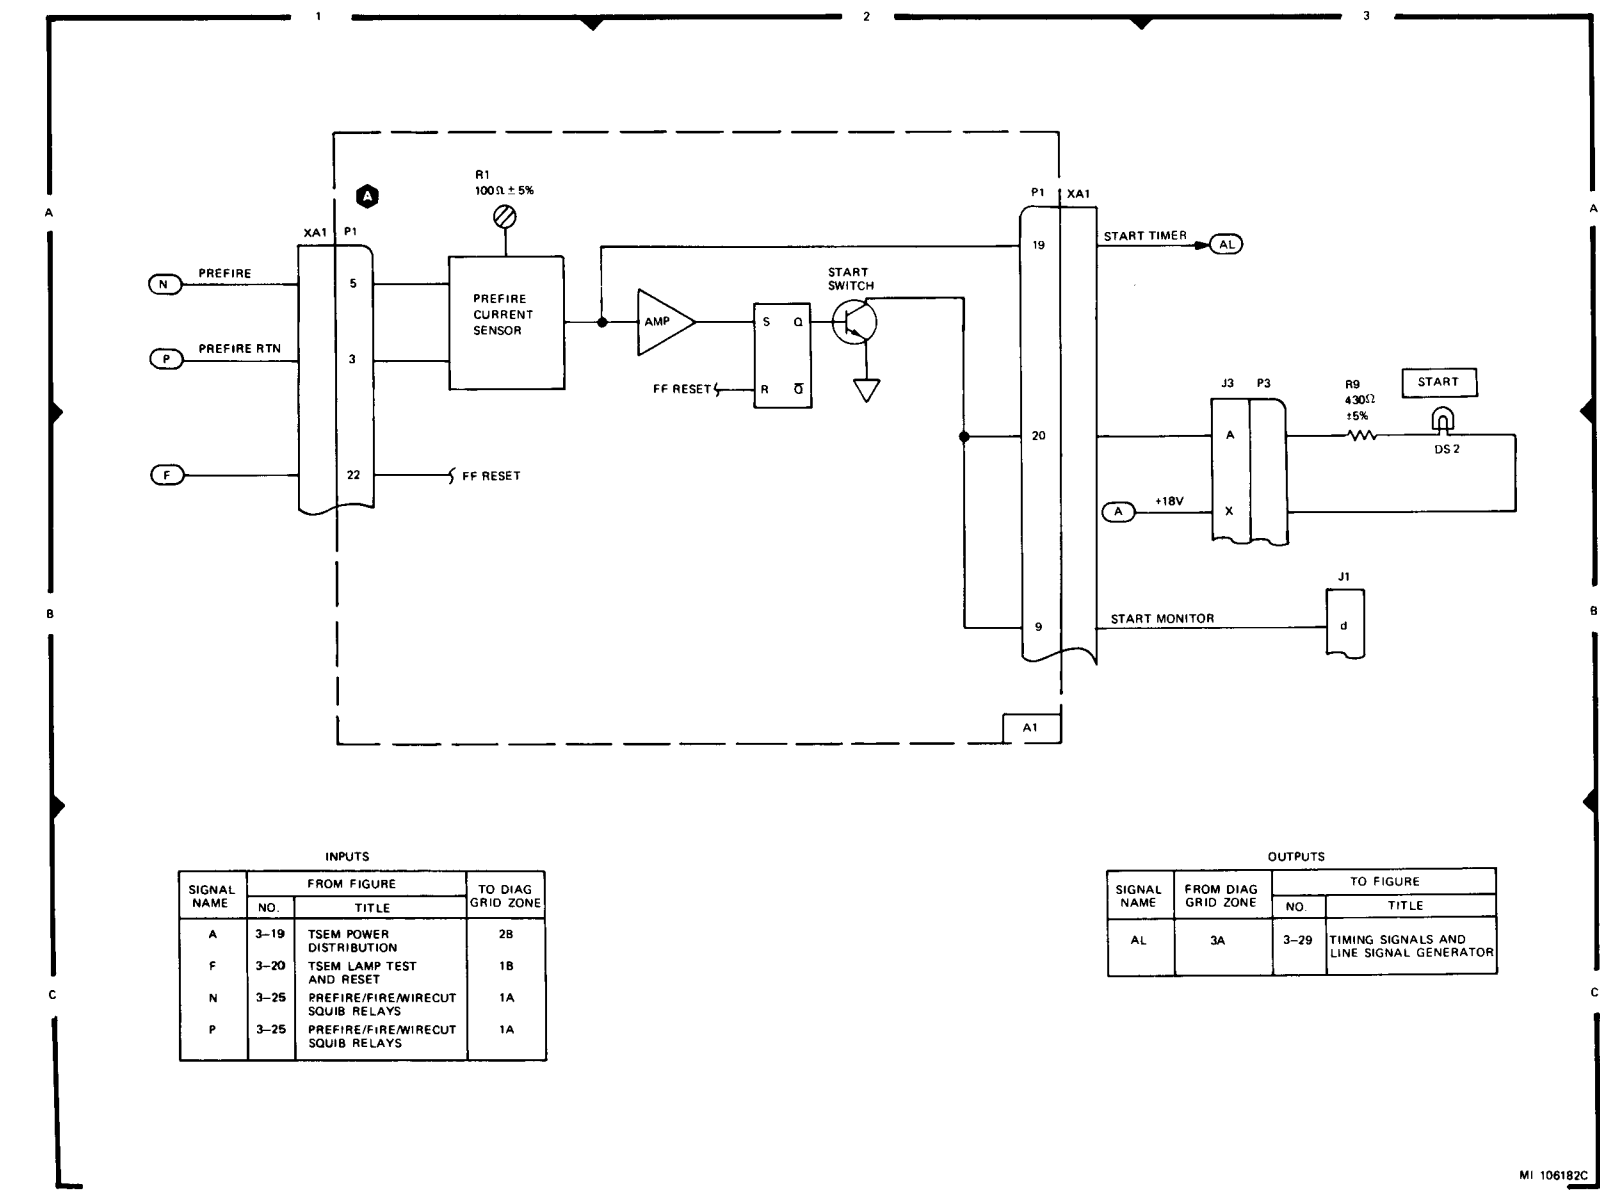

Figure 3-21. Start Timer Functional Diagram
c. Start Timer Function (Fig. 3-21). This function generates a start timer pulse for use in the balance line signal generator card A3. Verification that the timer sequence has been initiated is provided by the front panel START lamp.
Start timer	Figure 3-21